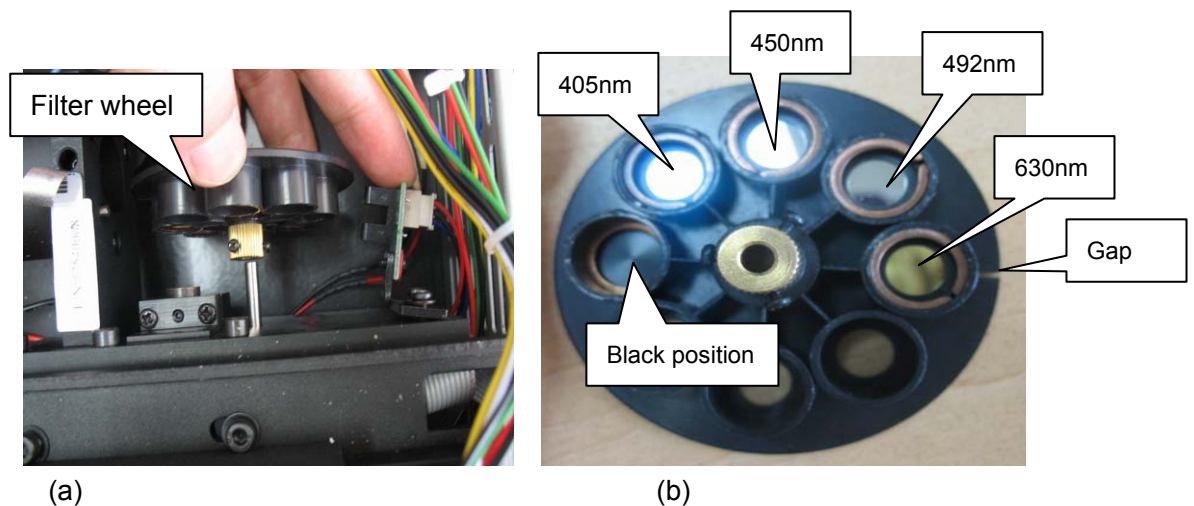

Figure 3-22
- 5、 Move away the optic coupler, take out the filter wheel, as shown in figure 3-22 (a)
- 6、 Replace filters according to wavelength as shown in figure 3-22 (b), please note that you can use the gap to distinguish the hole for different filters.